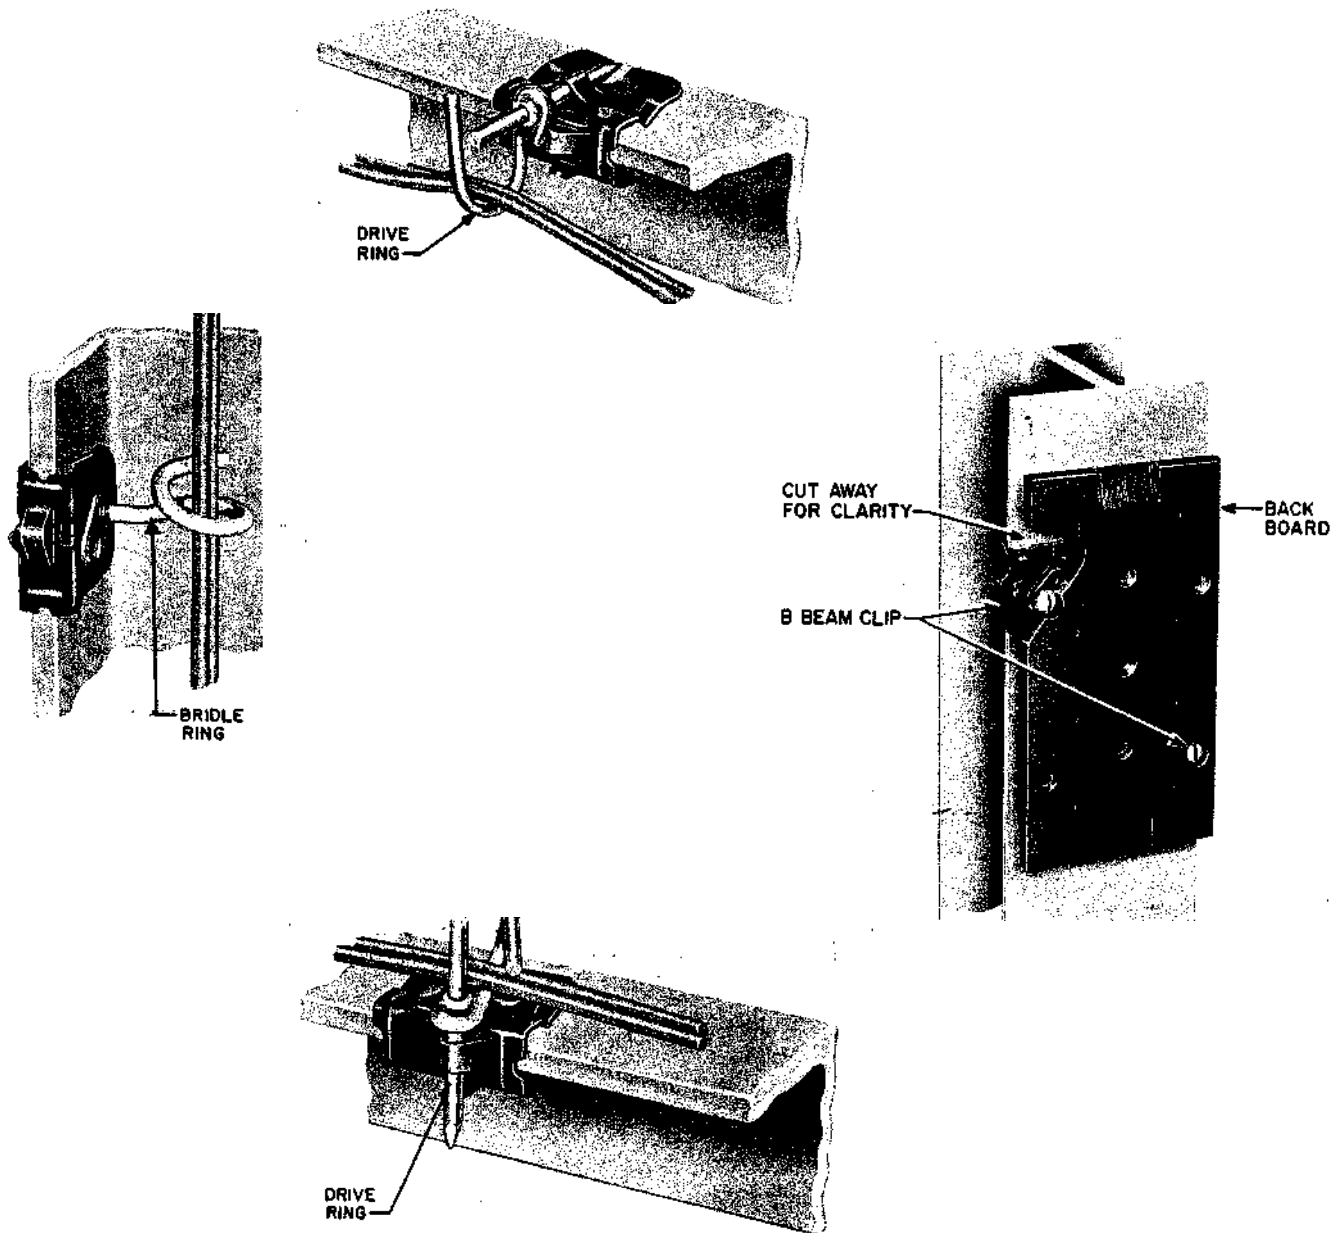

Fig. 4 — B Beam Clip, Installation
3.02 Various installation arrangements for B beam clip are shown in Fig. 4.